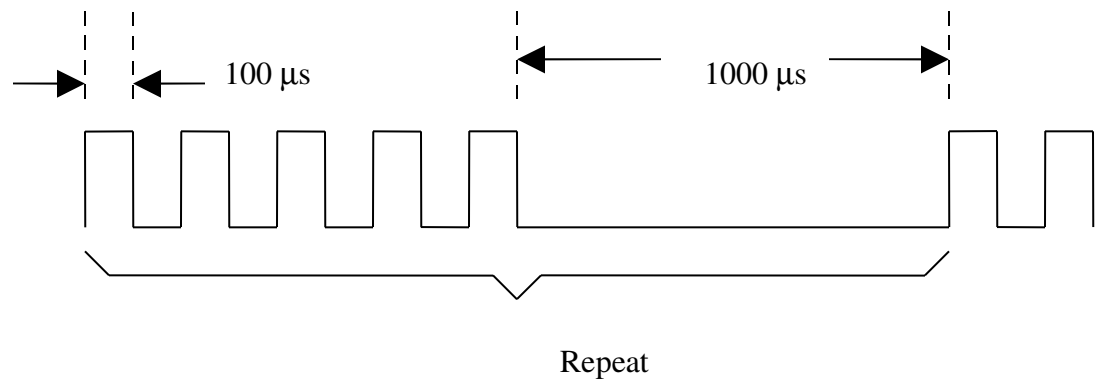

Figure 2. Friend signal for Part 6.
8. Connect your output compare signal to a logic analyzer. Verify that the square wave has a 1kHz frequency and a 50% duty cycle, and that the other signal looks like the signal of Figure 2.